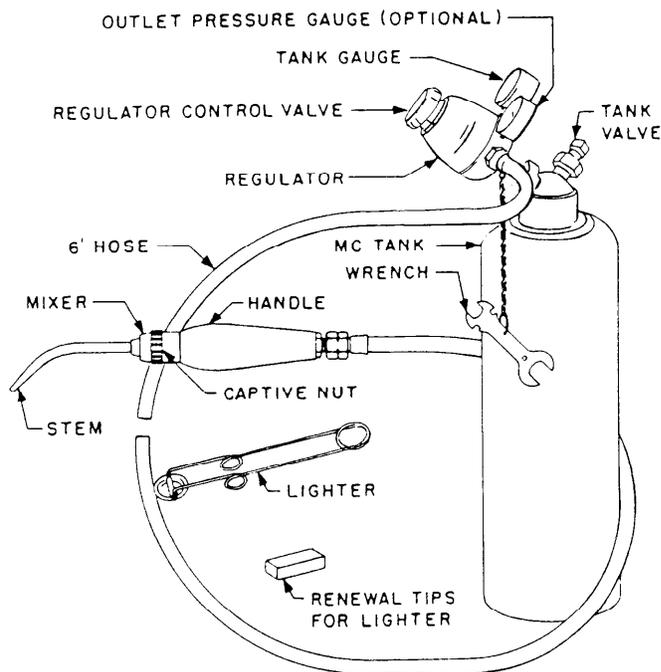

Fig. 5 - Acetylene Torch Connected to MC Tank
8.04 The E acetylene torch, illustrated in Fig. 5, should be adjusted as follows: